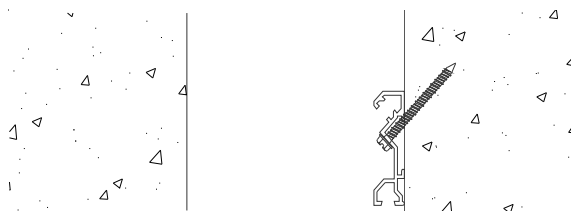

Figure 4
STEP 8. Using the fasteners provided by the factory, attach the base member to the wall, see Figure 4. Ensure that the base member remains properly aligned, level, and straight.